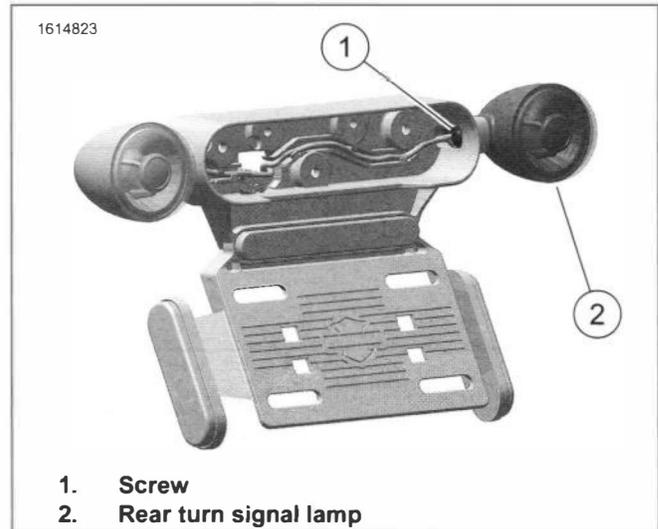

Figure 8-44. Rear Turn Signal Lamp (right lamp shown) COMPLETE
1. See Figure 8-44. Remove screw (1).
2. Release the wire from the locating track and remove rear turn signal lamp (2).
1. See Figure 8-44. Install rear turn signal lamp.
- a. Install rear turn signal lamp (2).
- b. Install screw (1). Tighten.